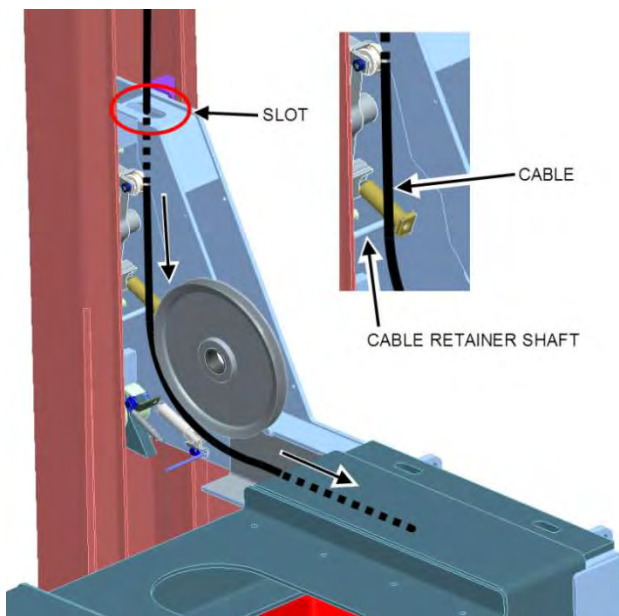

Figure 32
- Continue routing the cable, non-threaded sleeve first, through the slot in the top stiffener plate, through the front left cross-member (**Fig.32**). Pull sleeve end of the cable through the cross-member opening under the front of the left side runway (**Fig.33**)
**NOTE:** It is very important to route the cable inside a cross-member IN FRONT of the cable retainer shaft (see detail in **Fig.32**). Routing the cable behind the cable retainer shaft will not allow the cable to sit in the pulley groove and will cause damage to the lift.
- Continue routing the cable, non-threaded sleeve first, through the slot in the top stiffener plate (Ref. **Fig.32**), through the front right cross-member. Pull sleeve end of the cable through the cross-member opening under the front of the right side runway (**Fig.36**).
**NOTE:** It is very important to route the cable inside a cross-member IN FRONT of the cable retainer shaft (see detail in **Fig.32**). Routing the cable behind the cable retainer shaft will not allow the cable to sit in the pulley groove and will cause important damage to the lift.